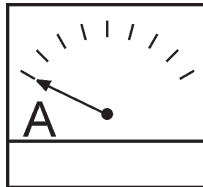

Figure 50. Ammeter (No Load)
14. The ammeter (Figure 50) will indicate _____ with no load applied. When a load is applied, the ammeter will indicate the amount of current that the load is drawing from the generator.